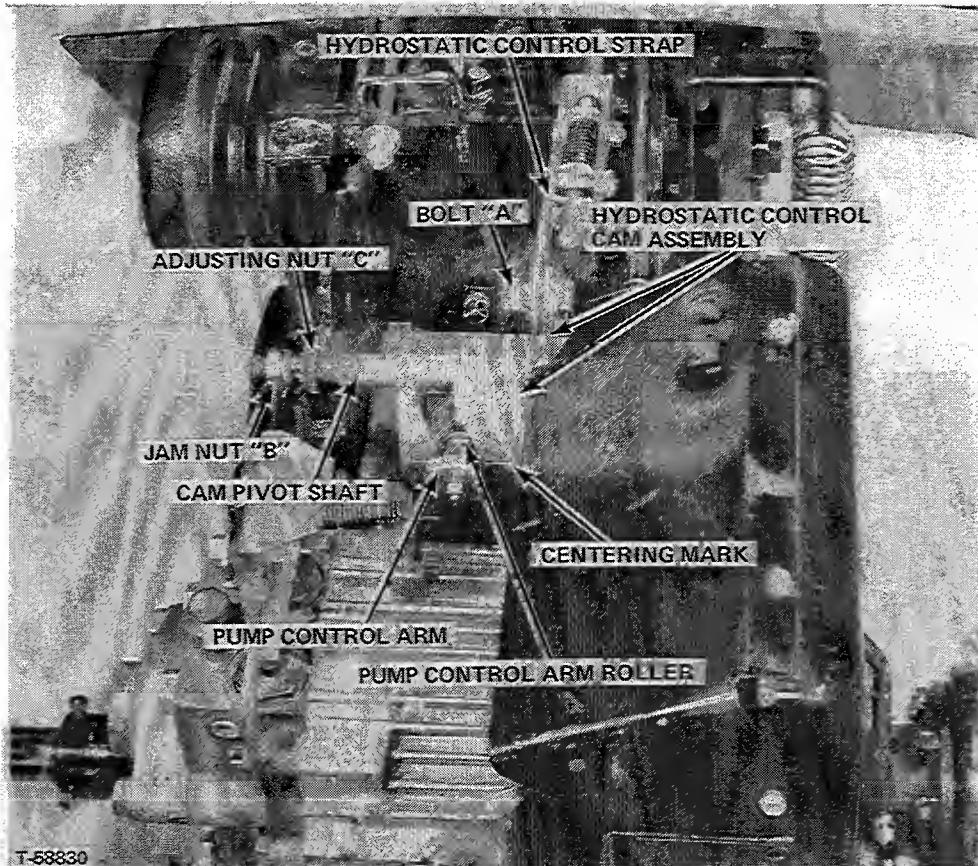

FIGURE 47 - Hydrostatic Tractor (Seat Deck Raised)
- B. Raise the seat deck and check if the pump control arm roller, (Figure 47), is exactly centered with the centering mark on the hydrostatic control cam. If it is not centered, loosen bolt "A" and move the hydrostatic control cam assembly forward or backward in the slotted hole in the hydrostatic control strap until centering mark is centered on roller. Tighten bolt "A". Lower seat deck, get in the operator's seat, start engine and release parking brake. If tractor still creeps with hydrostatic control lever in neutral, note which direction it creeps and proceed with next step.
- C. Again stop tractor engine, set parking brake and raise seat deck. Refer to Figure 47 and loosen jam nut "B" on L.H. end of the cam pivot shaft. If tractor creep had been in reverse turn adjusting nut "C" 1/8 to 1/4 turn clockwise when viewed from the R.H. side of tractor. If tractor creep had been forward turn nut "C" 1/8 to 1/4 turn counterclockwise. Lock jam nut, lower seat deck, get on tractor seat, start engine and release parking brake. If tractor still creeps in neutral repeat step C moving nut "C" a small amount at a time until no more creep occurs.